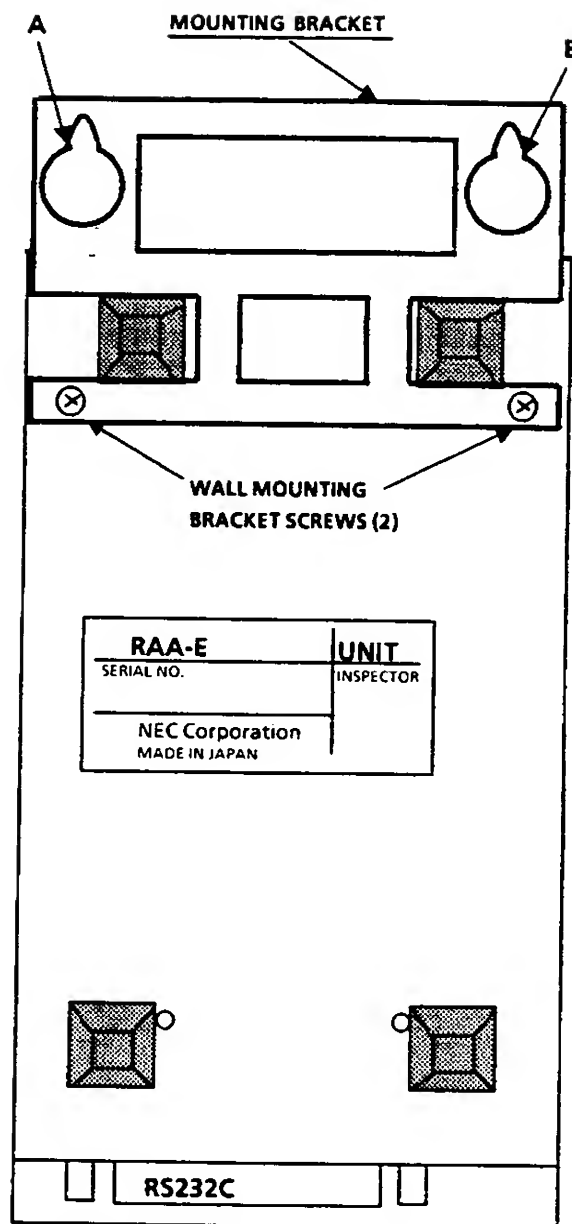

Figure 920-3 RAA-E Bottom View with Wall Mounting Bracket Attached
1. Attach the wall mounting bracket to the RAA-E unit with the screws provided, as shown in Figure 920-3.